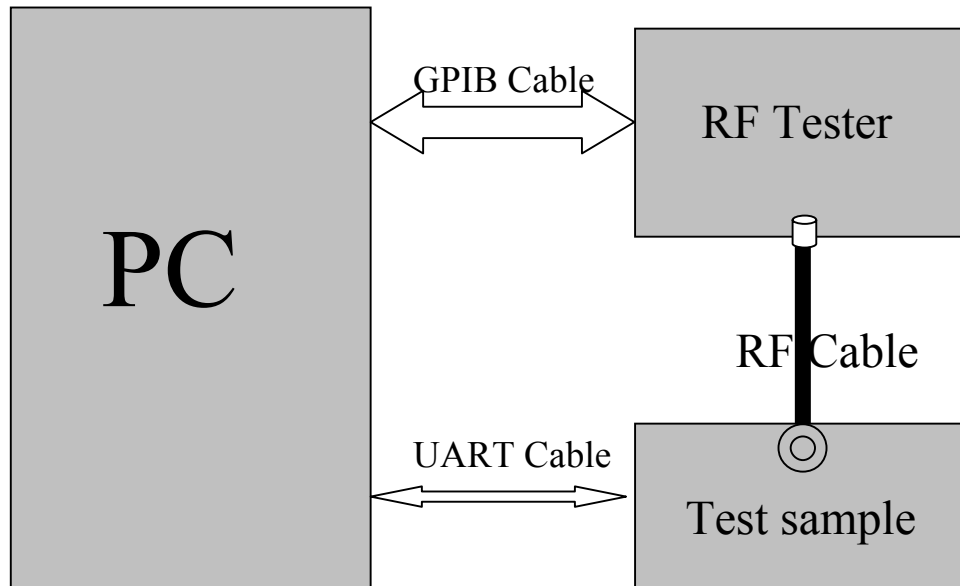

Figure 1
(1) The equipment setup as shown in Figure 1.
(2) Operation of PC adjusts equipment.
(3) Use RF Engineering Tools at PC side.
(2) Use Crystal AFC Control Tools to Set CapID and AFC DAC value.
(3) Set Band=GSM850, Set ARFCN=190, Set PCL=12.